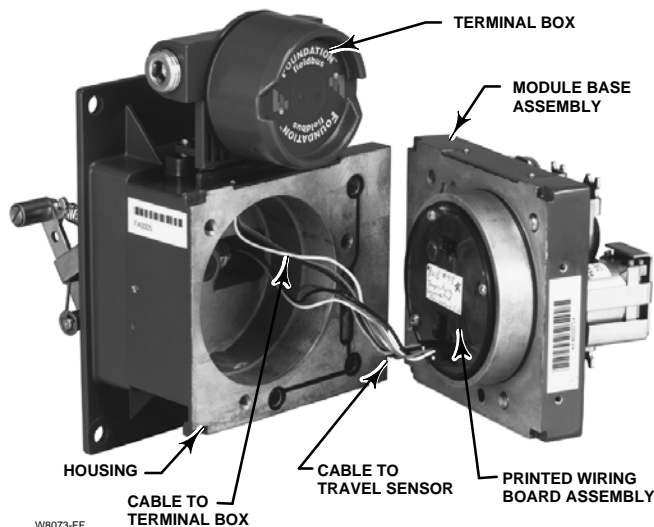

Figure 7-1. Printed Wiring Board Cable Connections
4. Pull the module base straight out of the housing (key 1). Once clear of the housing, swing the module base to the side of the housing to gain access to the cable assemblies.
5. The digital valve controller has two cable assemblies, shown in figure 7-1, which connect the module base, via the printed wiring board assembly, to the travel sensor and the terminal box. Disconnect